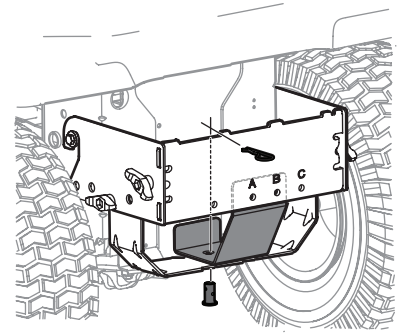

Figure 4
2. Install the support bracket (783-08856), included with the loose parts, into the mounting assembly as shown in Figure 4. Line the holes up as shown.
3. Install the clevis pin (711-0309A) from hardware pack 689-02364 into the tractor's hitch, the support bracket, and the mounting assembly and secure with a cotter pin (714-0117). See Figure 4.